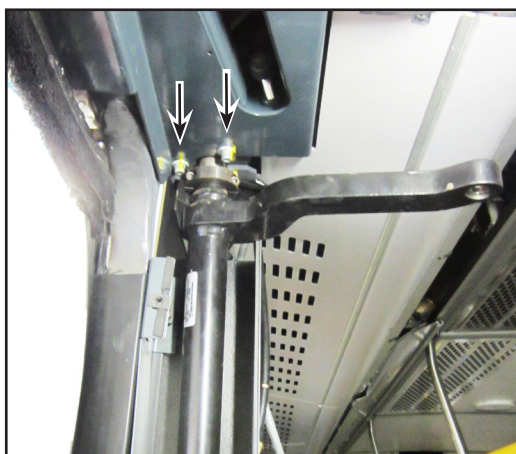

Figure 3 - Remove Door Shaft
- 1.6. To remove the door shaft, remove the three bolts under the operator support plate. See Figure 3.